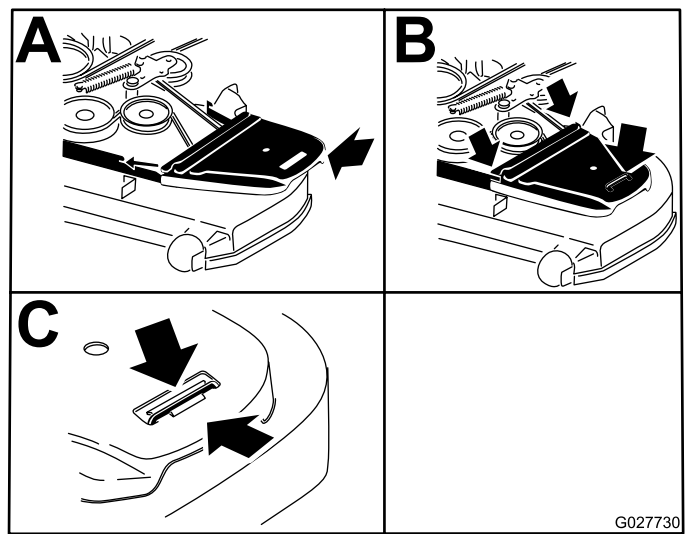

Figure 93
12. Install the belt covers (Figure 93).